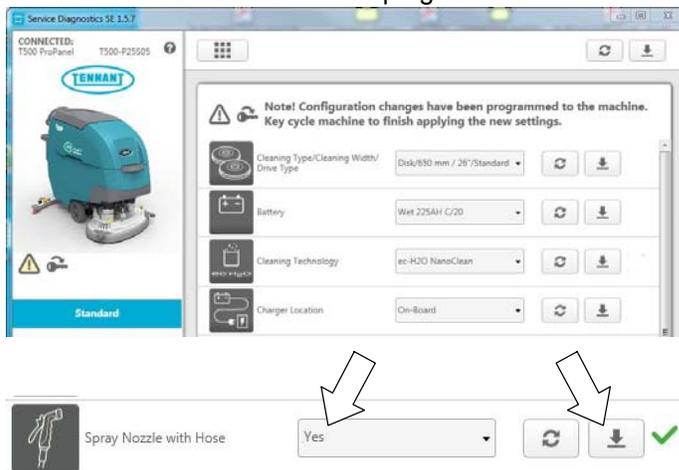

Fig. 30
6. Change the **"Spray Nozzle with Hose"** configuration to **"Yes"** (Figure 30). Then press the down arrow button to program the machine. A green check will appear next to the down arrow button when programmed.